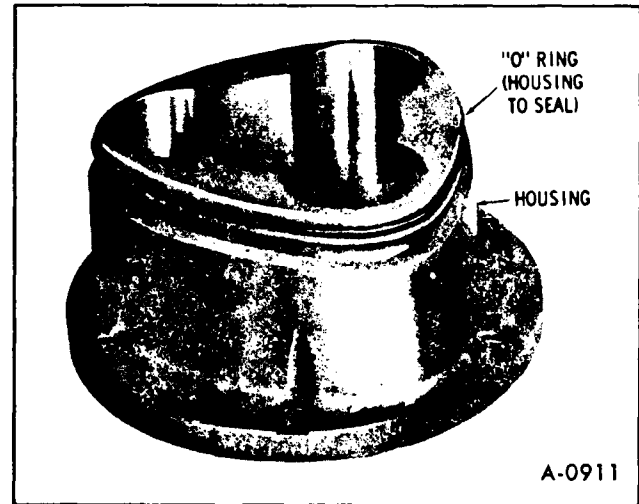

Figure 30-Installing "O" Ring on Housing
9. Install new "O" ring in outer groove in housing. (figure 30)